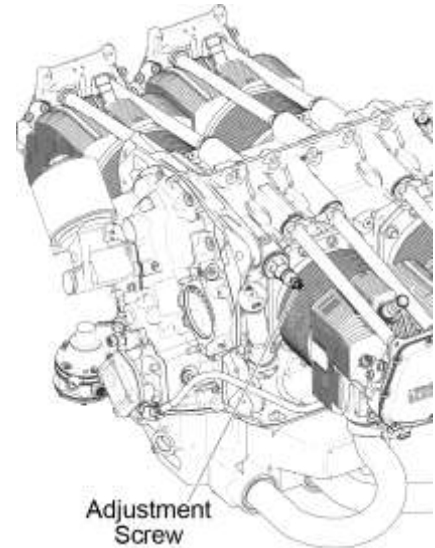

Figure 1
NOTICE: On the majority of these engines, there is an adjustment screw (Figure 1) on the oil pressure relief valve housing. Rotation of this screw either increases or decreases the oil pressure to keep it within the specified operational limits in Appendix A of the *IO-390-D Series Engine Installation and Operation Manual*.
- (1) The engine must be installed in the aircraft or on a test stand to complete this procedure.
- (2) Start and operate the engine per instructions in the *IO-390-D Series Engine Installation and Operation Manual*.
- (3) Run-up the engine to 2000 rpm.
- (4) Record the oil pressure reading.
- (5) If the oil pressure is out of tolerance, turn off the engine and adjust the oil pressure as follows:
- To **increase** oil pressure, turn the pressure adjustment screw on the oil pressure relief valve **clockwise** (Figure 1).
- (6) Start the engine and repeat the previous steps until the oil pressure is within specified limits.